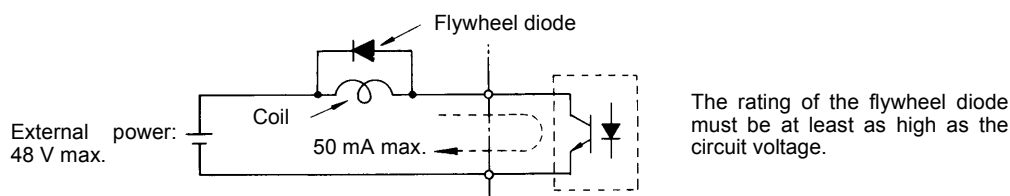

Fig 2.17 Flywheel Diode Connection
* 2. When driving a reactive load, such as a relay coil, always insert a flywheel diode as shown in Fig 2.17.